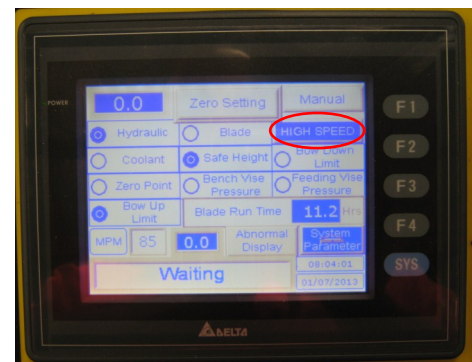

FIG 19.
- Move Feeding Vice backwards and close it. The speed of the Feeding Vice can be adjusted by pressing this button (Fig 19.) It will toggle between “HIGH SPEED” & “LOW SPEED”.